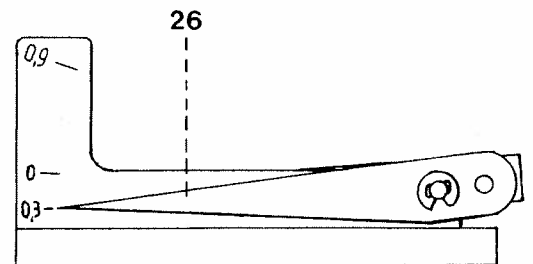

Fig. 5e
- Turn the hand wheel very slowly forward until the pointer is at 0.3 (Fig. 5e).
- Turn the hand wheel a full rotation forward, then turn further until pointer 26 is at 0.3 (Fig. 5e).